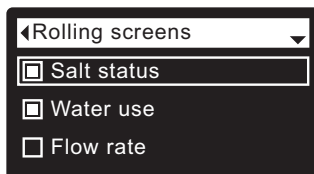

FIG. 61
5. Press the SELECT (O) button to display the Rolling screens menu (See Figure 61).